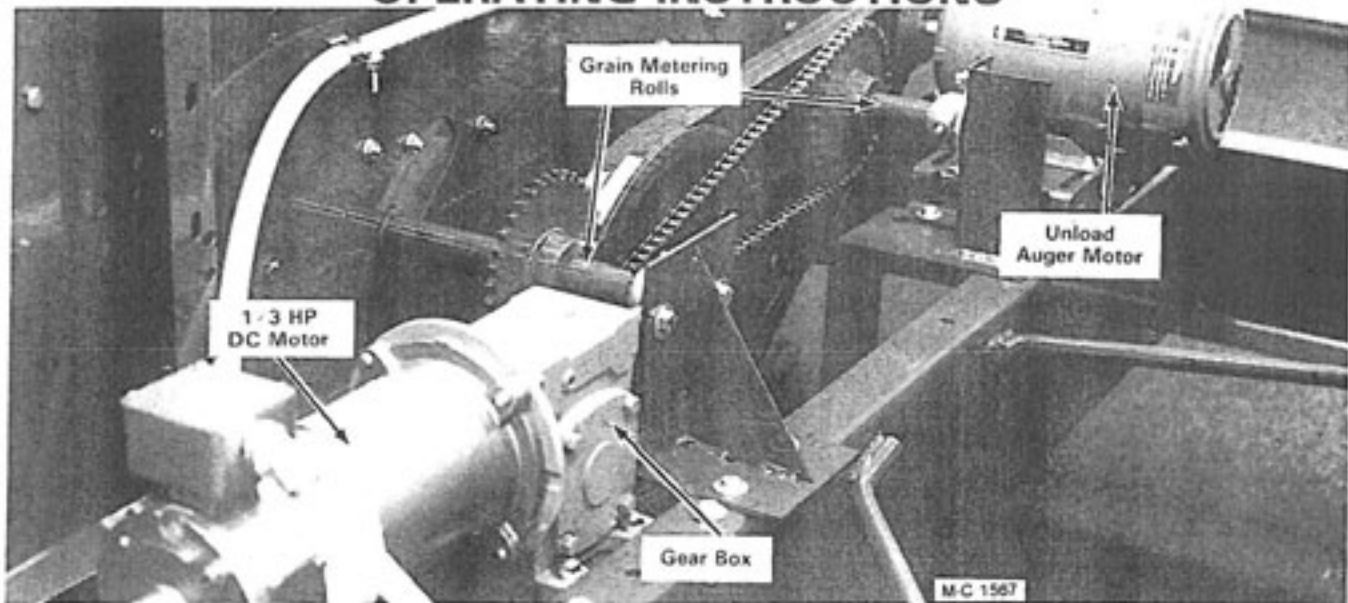

Figure 19
Operation of the Discharge System (See Figure 19)
11. The SCR drive speed control dial, Figure 19, is graduated from 0 (slow) to 10 (fast). Use the Grain Metering Roll Discharge Rate Chart, Figure 22, as a guide to set the SCR drive speed control.